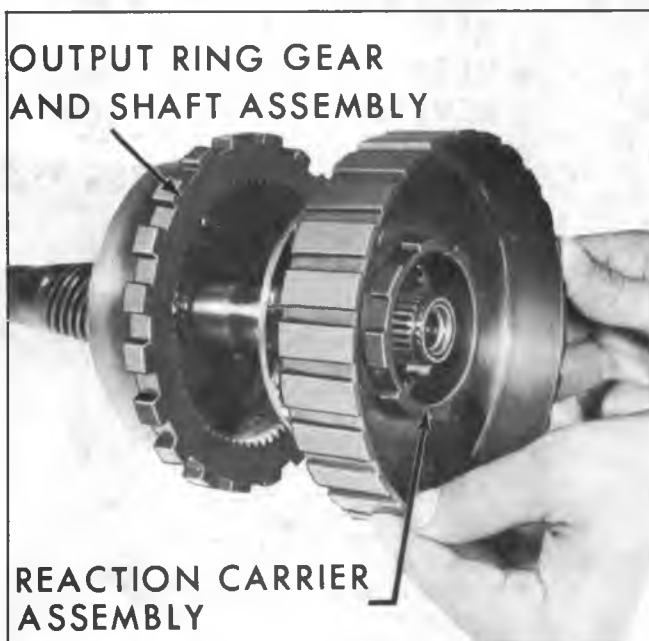

Fig. 42M--Removing Reaction Carrier Assembly
17. Remove reaction carrier assembly from output ring gear and shaft assembly (fig. 42M).